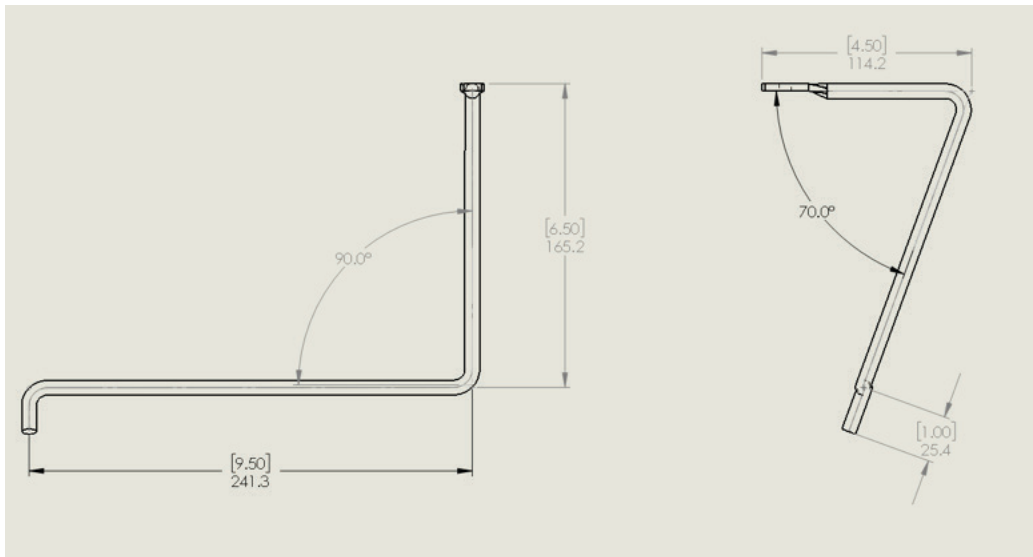

Figure 32: Driver Side
- C. Bend the rod as shown (fig. 32–34). Keep in mind that the flat side of the tab will be bolted to the structure.